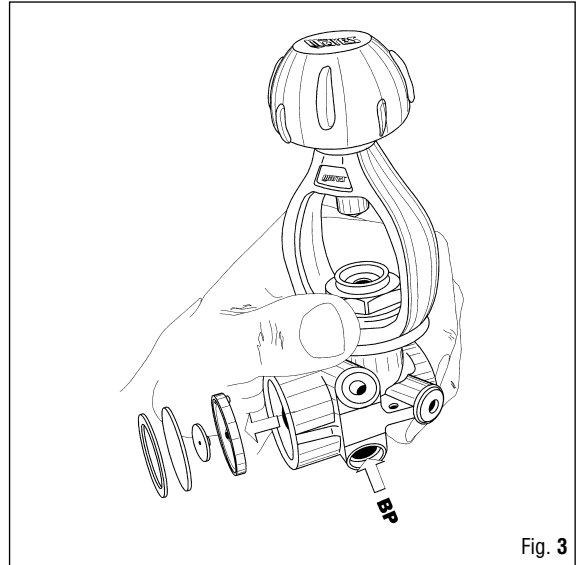

Fig. 3
11. Introducing low pressure air (below 7 bar) through a 3/8" LP port, remove the diaphragm (14), the poppet button (13), and the DFC washer (189) (Fig. 3).